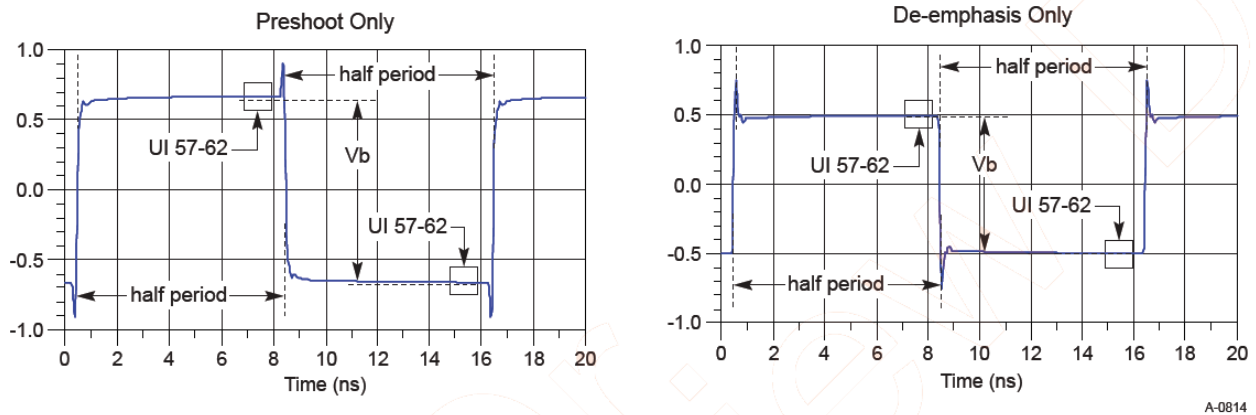

Figure 101 Waveform measurement points for preshoot and de-emphasis
8.0 GT/s, 16.0 GT/s and 32.0 GT/s PCIe signaling must support the full range of presets given in Table 8-1 (PCIe Base Specification Revision 5.0). Presets are defined in terms of ratios, relating the pre-cursor and post-cursor equalization voltages. The pre-cursor (V_c) is referred to as pre-shoot, while the post-cursor (V_b) is referred to as de-emphasis. This convention permits the specification to retain the existing 2.5 GT/s and 5.0 GT/s definitions for Tx equalization, where only de-emphasis is defined, and it allows preshoot and de-emphasis to be defined such that each is independent of the other. The tolerances in Table 8-1 (PCIe Base Specification Revision 5) also apply to 2.5 and 5.0 GT/s de-emphasis. The maximum swing, V_d , is also shown to illustrate that, when both c_{+1} and c_{-1} are nonzero, the swing of V_a does not reach the maximum as defined by V_d . The high frequency nature of PCIe signaling makes measurement of single UI pulse heights impractical. Consequently all amplitude measurements are made with low frequency waveforms as shown in Figure 101.